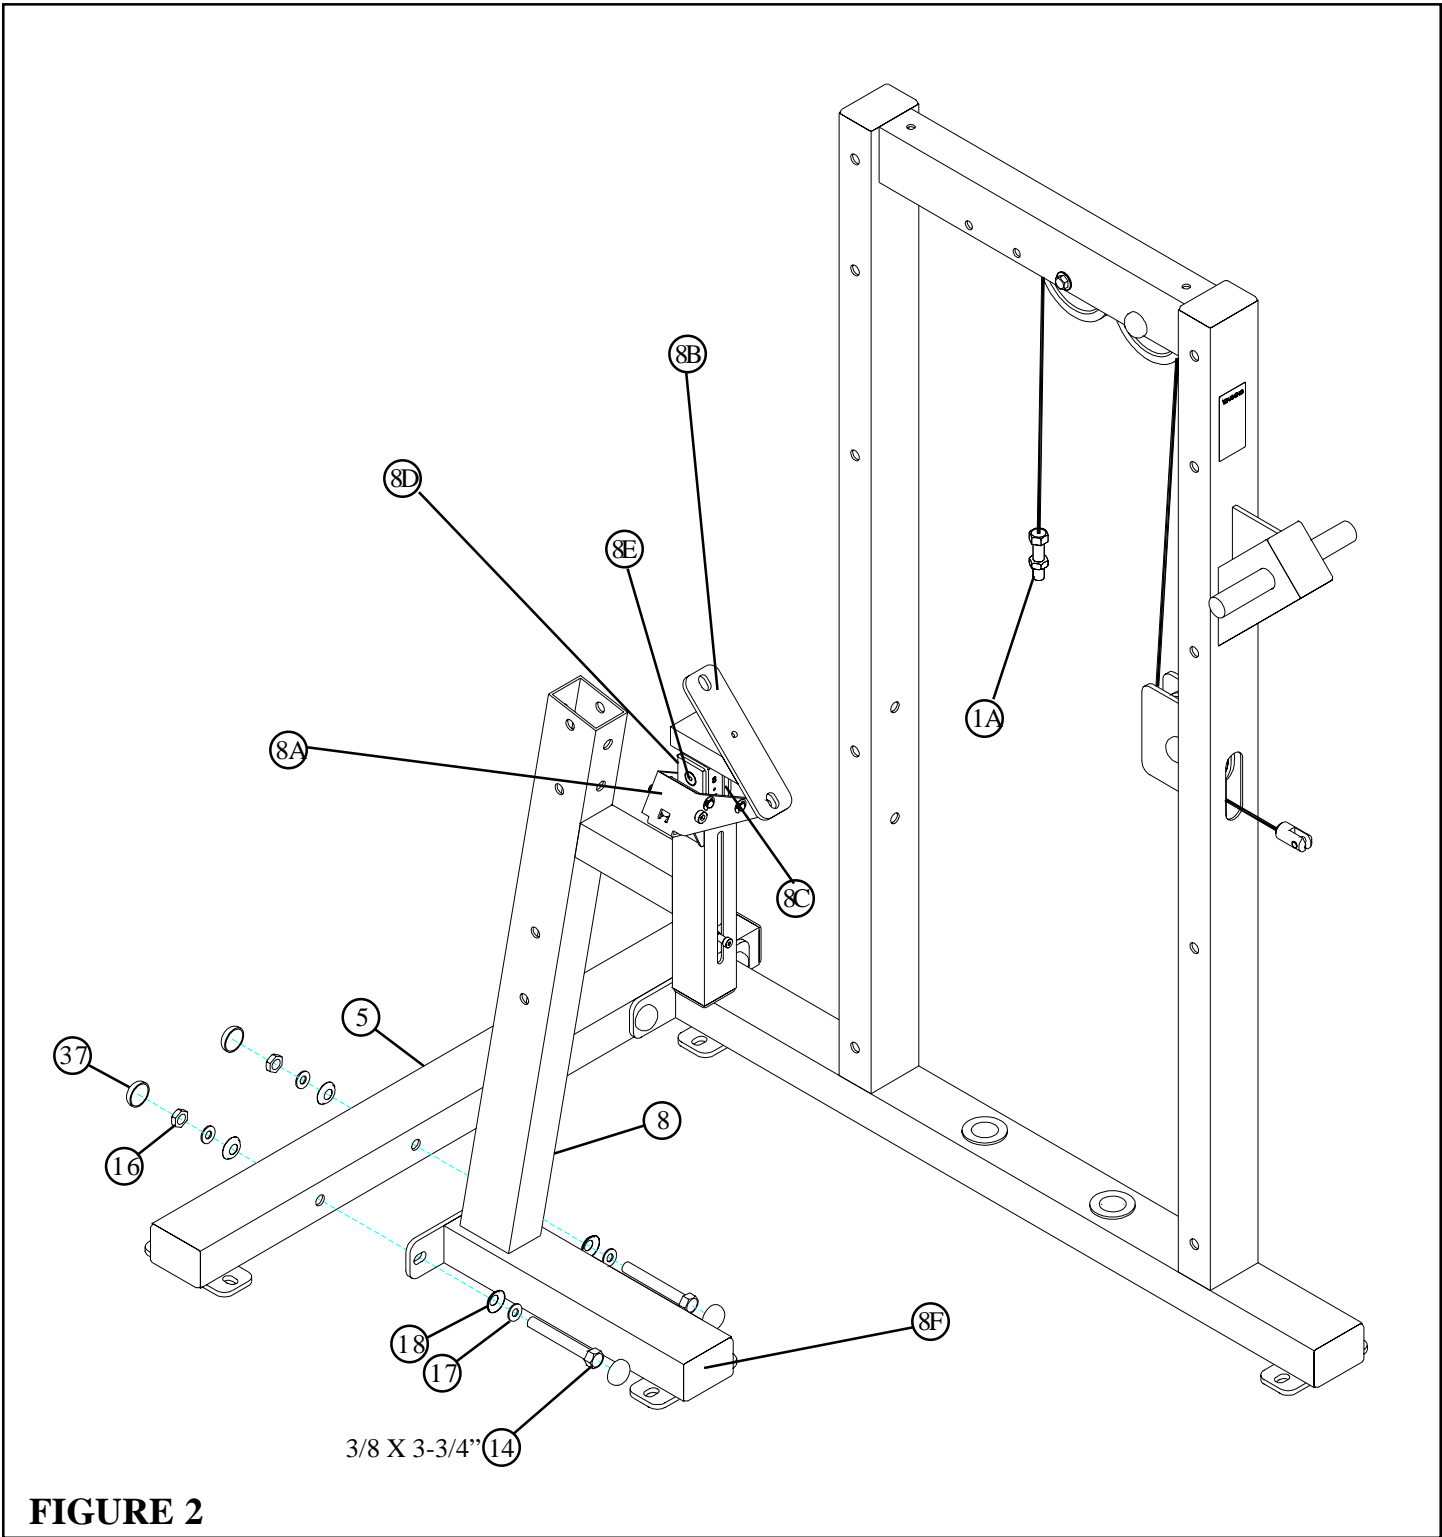

FIGURE 2
- **LOOSELY** assemble the SEAT FRAME (8) to the BOTTOM CROSS SUPPORT (5) using four RH CAPS (37), two 3/8 X 3-3/4" BOLTS (14), four 3/8" SAE WASHERS (17), four 3/8" RH WASHERS (18) and two 3/8" LOW HEIGHT LOCK NUTS (16) as shown in FIGURE 2.